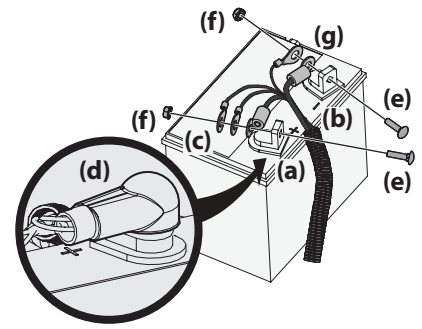

Figure 2-20
Note: The positive battery terminal is marked POS. (+) (a). The negative battery terminal is marked NEG. (-) (b). See Figure 2-20.
2. **Note:** If the positive battery cable (c) is already attached, skip ahead to Step 6. See Figure 2-20.
3. Slide the red boot (d), if present, back along the positive cable grouping. See Figure 2-20.
4. Attach the positive cable grouping (c) and positive cable for the 12V outlet (if equipped) to the positive battery terminal (a) with the bolt (e) and sems nut (f). See Figure 2-20.
5. Position the red boot (d) over the positive battery terminal (a) to insulate it and help protect it from corrosion. See Figure 2-20.
6. Attach the negative cable grouping (g) and negative cable for the 12V outlet (if equipped) to the negative battery terminal (b) with the bolt (e) and sems nut (f). See Figure 2-20.